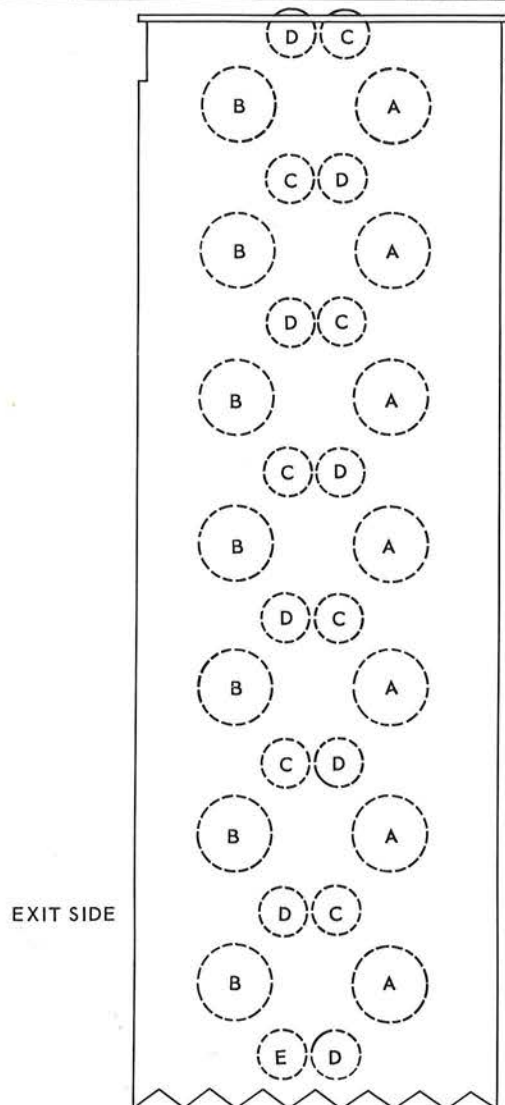

FIGURE 49 ARRANGEMENT OF AIR TUBES AND TRANSPORT ROLLERS IN THE DRYER
e. After installing a new belt, replace the air tubes and transport rollers in their proper positions. (See figure 49.)